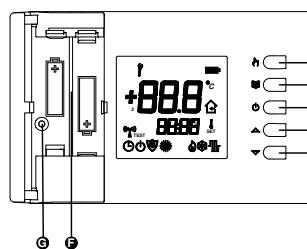

Fig. 1
2. Correctly insert the batteries (respecting polarity) in the battery compartment (Fig. 1), do not use low charged batteries, use alkaline ones.